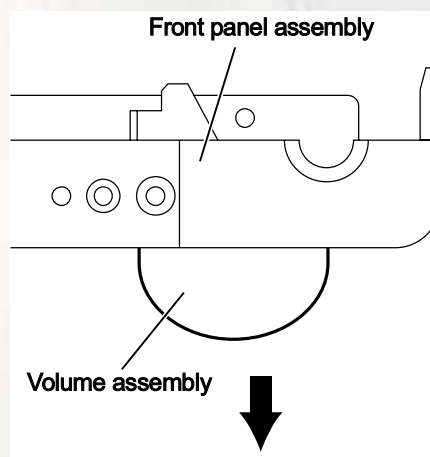

Fig.24
(See Figs.24 and 25)
- (1) From the front side of the front panel assembly, pull out the volume assembly in the direction of the arrow. (See Fig.24.)